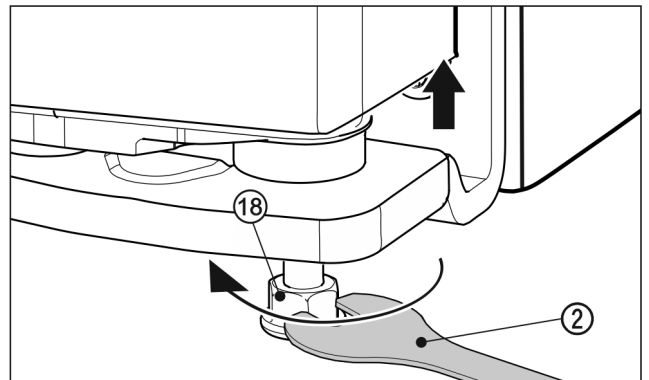

Fig. 27
- ▶ To lift the door, unscrew the adjusting foot Fig. 27 (18) clockwise using the supplied open-ended spanner Fig. 27 (2) until the foot makes contact with the floor. Then continue turning until the door is adjusted to the right height. When delivered, the bearing pin is completely screwed in.